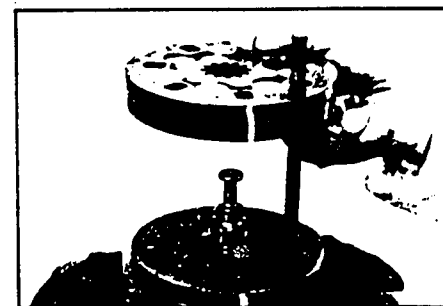

Figure 54
14. Install the assembled rotor set (8) onto wear plate (9) with rotor (8A) counterbore and seal ring side down and the splines into mesh with the drive link splines. SEE FIGURE 54.